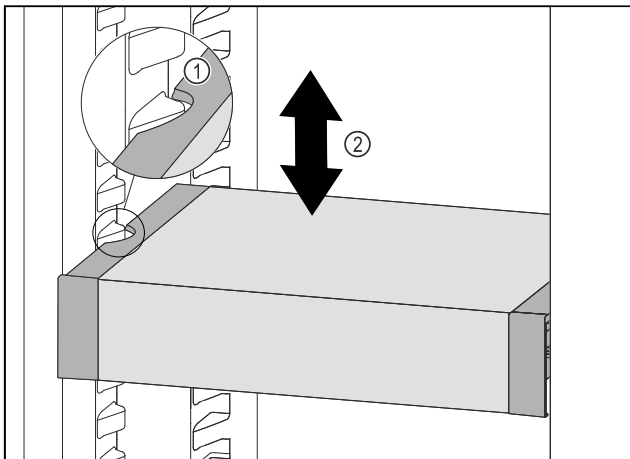

Fig. 60
- ▶ Pull VarioSafe forwards until the recesses in the side of the VarioSafe are at the level of the support rib in the refrigerator compartment. Fig. 60 (1)
- ▶ Move VarioSafe up or down in the refrigerator compartment until the desired height is reached. Fig. 60 (2)